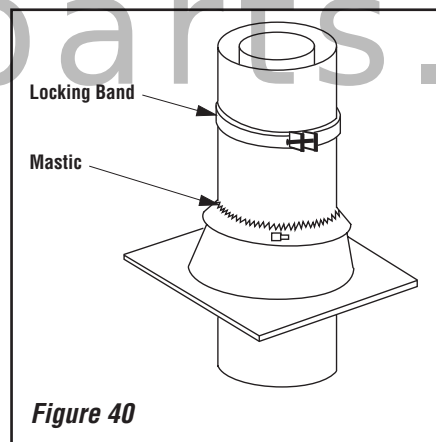

Figure 40
Step 8. The standard Security FTf8 roof flashing assemblies include a storm collar. Slide the storm collar over outer chimney, rest on flashing spacers and align with top surface of flashing. Insert tab in slot, pull tight and bend tab back over slot. Seal storm collar to outer chimney with roof caulking or mastic around entire circumference of pipe. Also add extra roof caulking to the tab/slot area to seal completely against water penetration (**Figure 40**). Check all joints very carefully to ensure no water intrusion can take place.
Step 9. Security Chimneys locking bands, Model FLB, may be required if the chimney extends too high above the roof flashing. As a general rule, if the chimney extends more than 6' above the roof flashing, the use of locking bands is advisable to strengthen the chimney assembly. Align the locking band at the chimney joint. Locking bands wrap around pipe joints equally covering the joints of both pipe sections. Use the nut provided and TIGHTEN snugly. Do not overtighten as this might damage the chimney section (refer to **Figure 40**).